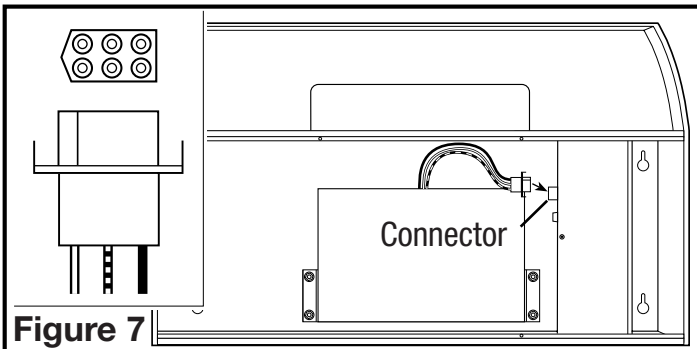

Figure 7
3. Plug the blower into the appropriate connector on the side of the wire compartment. It will only fit one way (Figure 7).
1. To replace the fuse, turn the fuse cap located next to the wire connector counter clockwise and pull out. Replace with only a 125-Volt fuse, 1-1/2 Amp Max. Reinstall the fuse back into the hood (Figure 7).